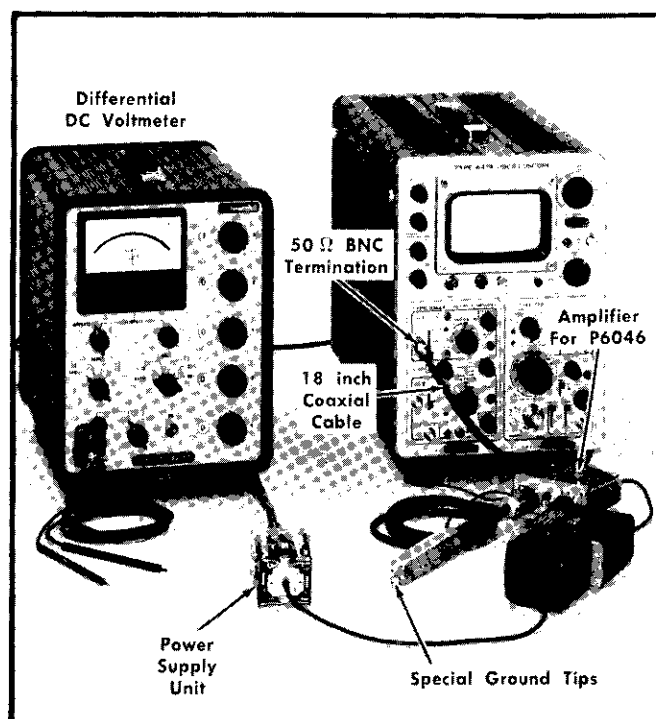

Fig. 6-22. Equipment setup for steps 2 through 4.
a. The equipment setup appears in Fig. 6-22.
3. Adjust Amplifier DC Output and DC Balance (R480, R550, R555) ①
a. The preliminary control settings apply. The equipment setup appears in Fig. 6-22.
4. Adjust ATTEN BAL (R400) ①
c. Attach special ground tips (item 20) to the Probe's + and — tips.
5. Adjust GAIN (R450) ①**IMPORTANT**